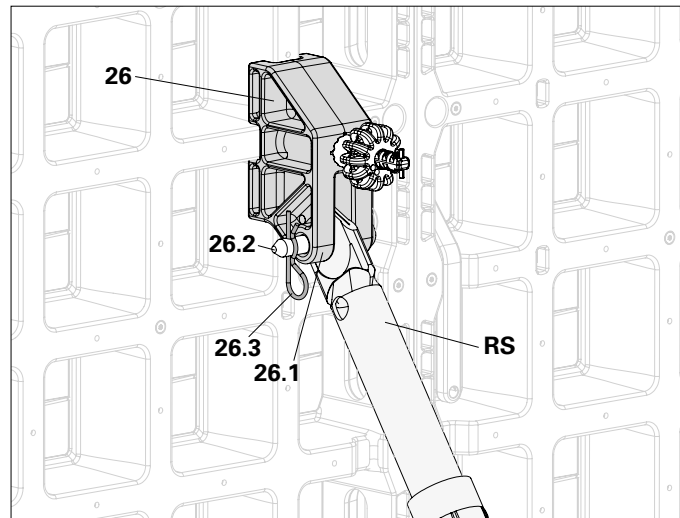

Fig. A6.07
Connect Push-Pull Prop (RS) and connection lugs (26.1) with bolts (26.2) and cotter pins (26.3). (Fig. A6.07)